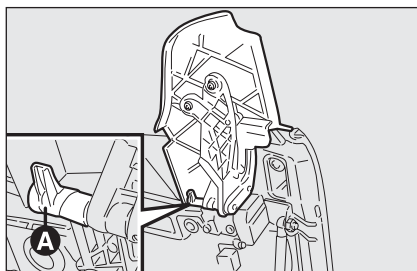

fig. 71
- ❑ fold flaps by turning the pin lever **A-fig. 71** to the dead center;